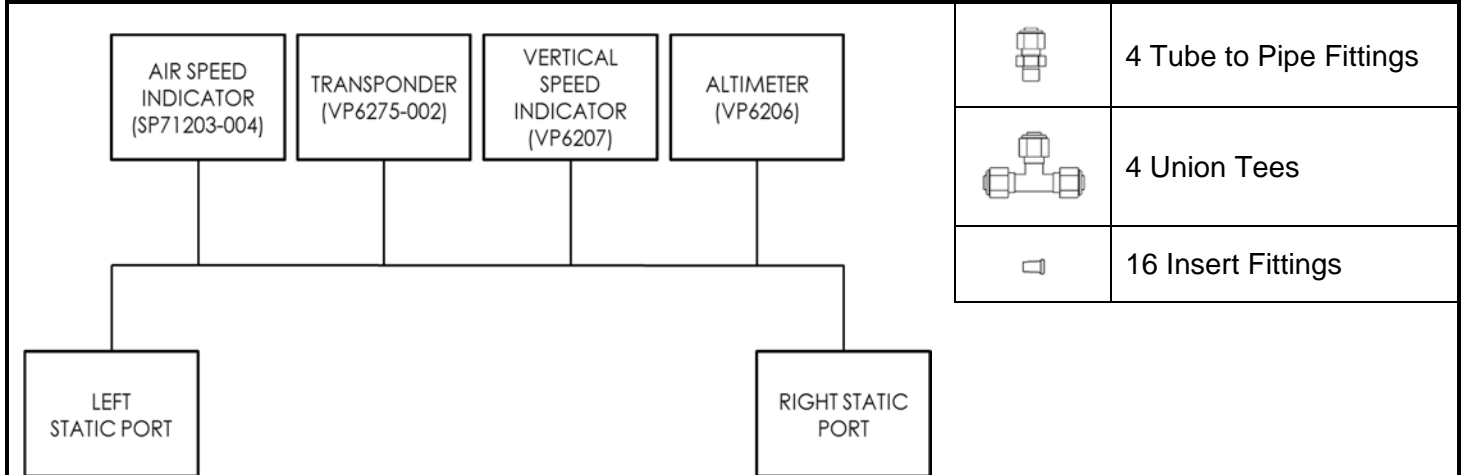

FIGURE 12 – World VFR Instrument Panel
- WORLD VFR Instrument Panel: skip to Figure 12.